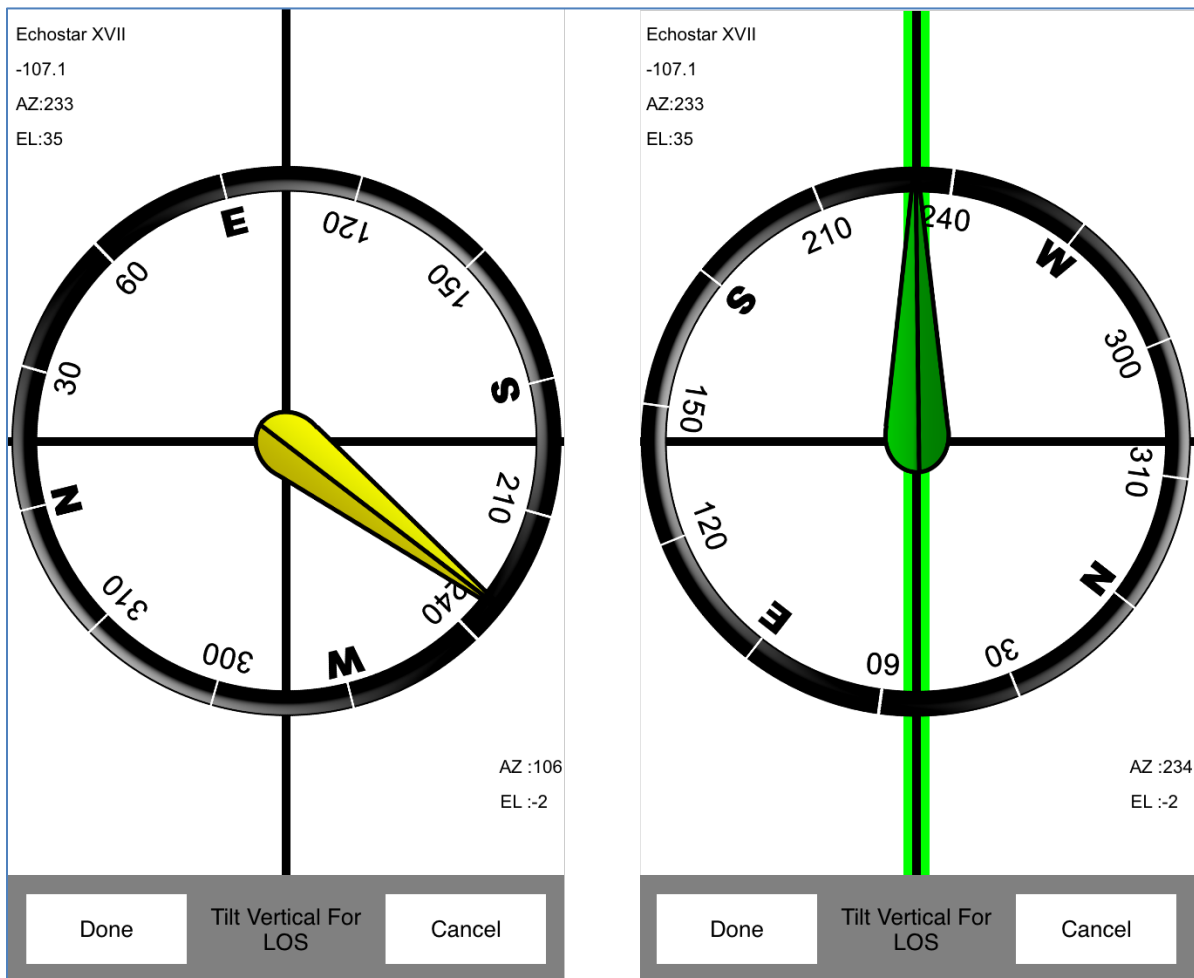

Figure 18: Line of Sight step – azimuth
1. While holding your smart device *parallel to the ground*, orient the onscreen compass until the needle lines up with the correct azimuth reading. As shown in Figure 18, the compass needle and the vertical line turn green when your device is correctly oriented.